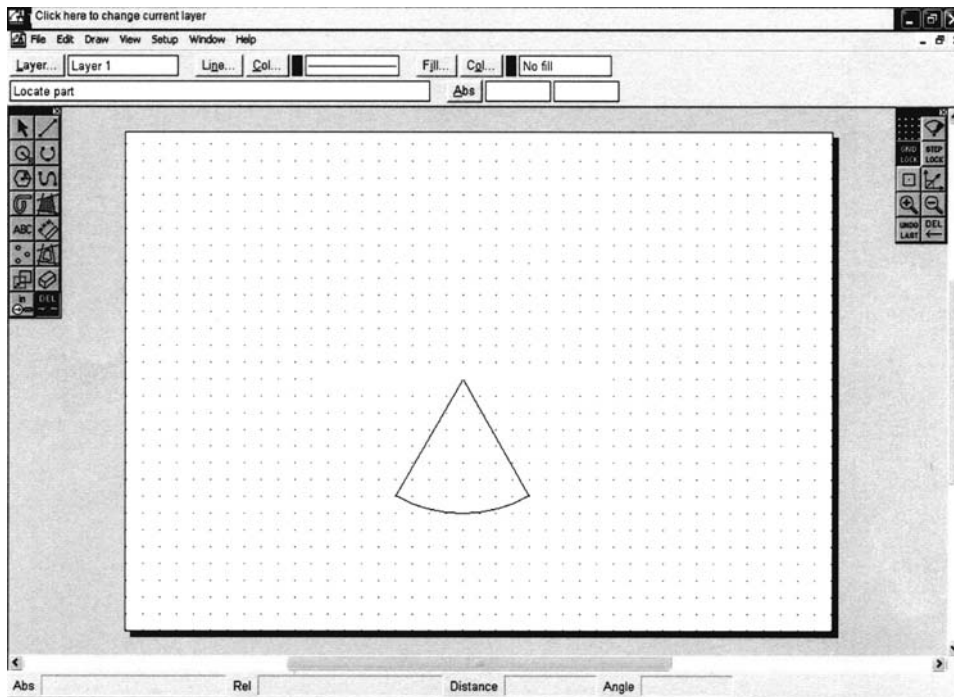

Fig. 7
- (a) The computer screen in Fig. 7 shows **one** piece of the puzzle drawn using a CAD software program.